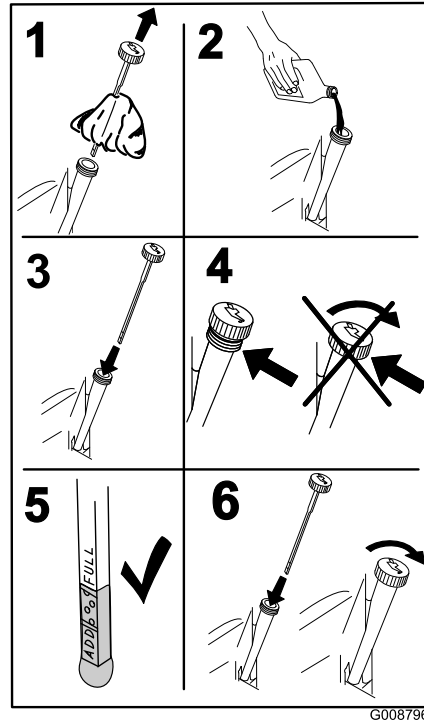

Figure 44
4. Slowly pour approximately 80% of the specified oil into the filler tube and slowly add the additional oil to bring it to the **Full** mark (Figure 44).